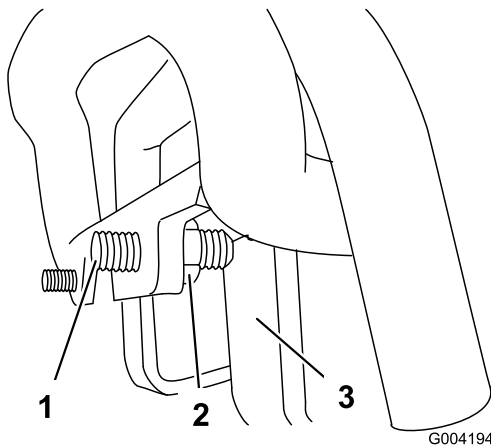

Figure 58
- If the traction unit veers to the **left**, loosen the **right** jam nut and adjust the tracking set screw on the front of the traction control (Figure 58).
- If the traction unit veers to the **right**, loosen the **left** jam nut and adjust the tracking set screw on the front of the traction control (Figure 58).